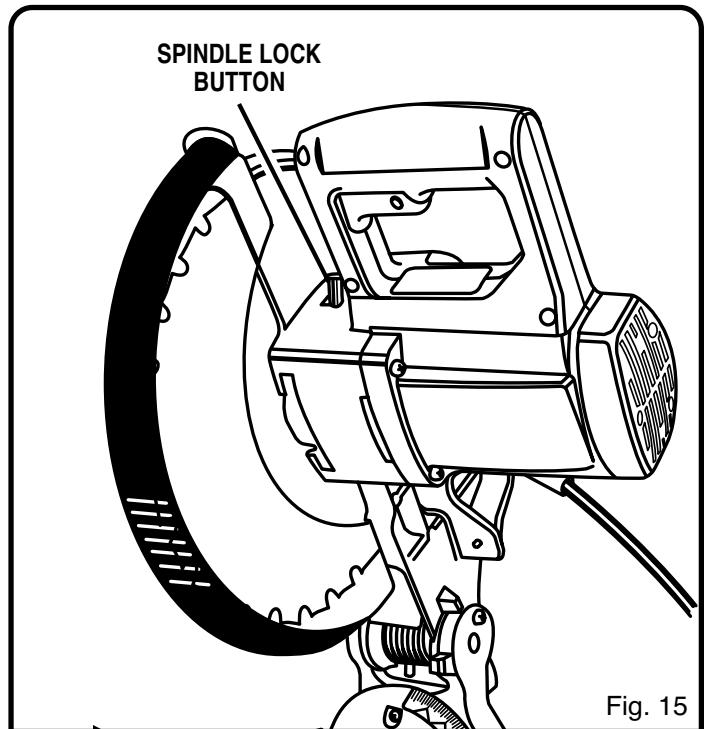

Fig. 15
See Figures 15 and 16.
- Using the wrench provided, loosen and remove the blade bolt. See Figure 15.